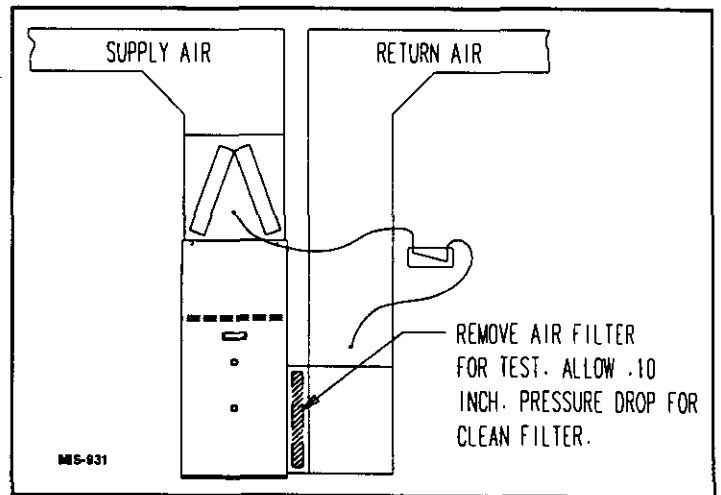

FIGURE 17 – MEASURING DUCT SYSTEM STATIC PRESSURE
7. Insert one static pressure tap into supply air transition duct between furnace and cooling coil or in the supply air plenum for heating only systems. Connect this pressure tap to positive pressure side of slope gauge. See Figure 17.
8. Insert other static pressure tap in return air plenum. Connect this pressure tap to negative pressure side of gauge. See Figure 17.